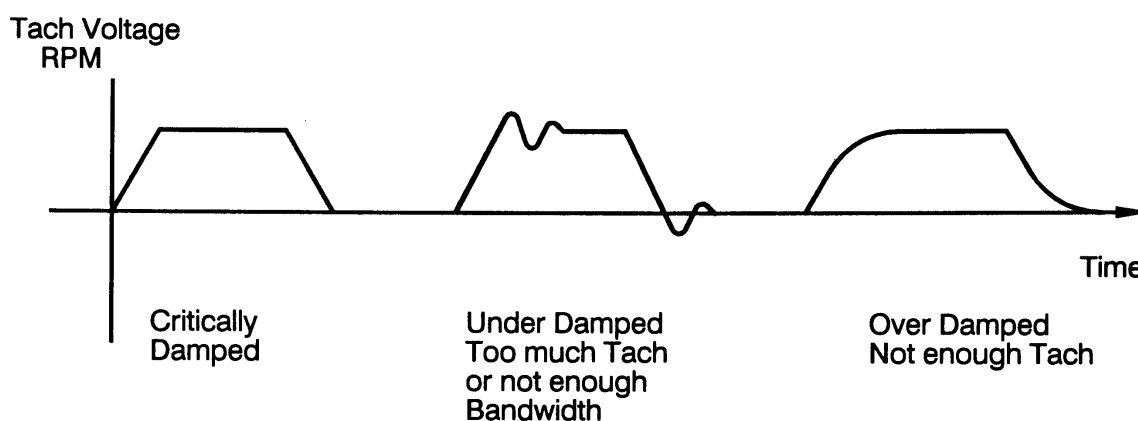

Figure 6.4
5. Observe the tachometer voltage with an oscilloscope while applying and removing the DC input signal. You will observe one of three possible waveforms; Critically Damped, Under Damped or Over Damped (see figure 6.4).